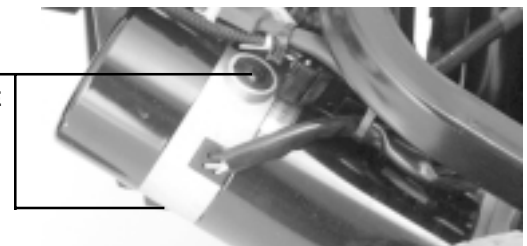

Figure 13. Motor Brush Location
2. Unscrew the motor brush caps. There are two on each motor. See figure 13.